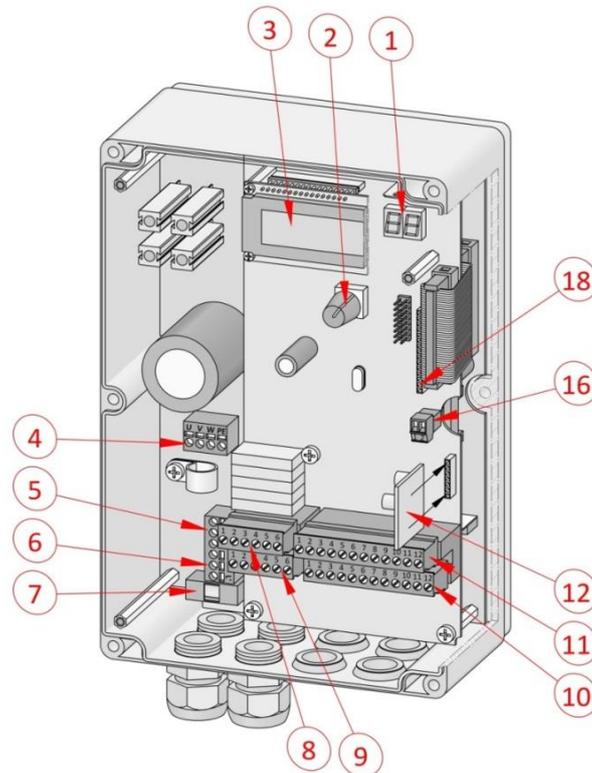

Figure 1: Overall view of the control unit
- Figure 1: Overall view of the control unit
The control unit already contains the control and evaluation logic for the inductive safety system ISK for the monitoring of travelling safety contact edges (8.2 kOhm). The ISK 7 ATC circuit board is attached to the control system for this purpose (figure 1: General view No.12. On a terminal (figure1 General view No.11) you can directly connect the immobile core SPK 55.
One-way light barriers or reflected-light barriers can be connected on a separate input (figure 1: General view No. 11).
The control system can optionally be equipped with a receiver for hand-held radio transmitters for remote control of the gate. An externally mounted aerial can then be connected to said receiver on a separate terminal (figure 1: General view No. 16).
There are two terminal blocks for the connection of external devices arranged next to one another on the control system. The left block is intended for relay outputs (figure 1: General view No.: 9), while control devices and sensors can be connected on the right block (figure 1: General view No.: 10 and 11). The terminal designation is printed on the board below the terminals.